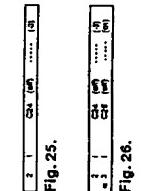

Fig. 25.
- Fine-tune the channel with  $\circ$  or  $\circ$  so that you get the best TV reception. As you press the cursor buttons, the frequency changes from -15 to +15. (See Fig. 25.)